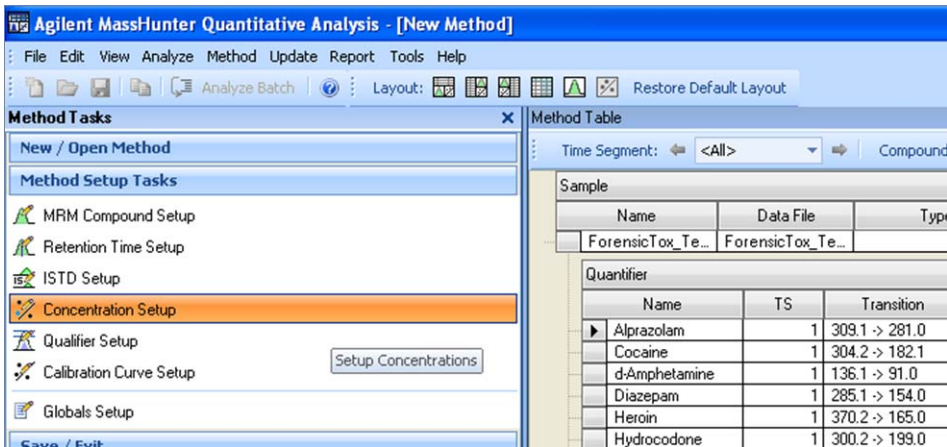

Figure 27 Concentration Setup under Method Setup Tasks
- c In the Quantitative Analysis program, from the **Method Setup Tasks** list, click **Concentration Setup**. See Figure 27.